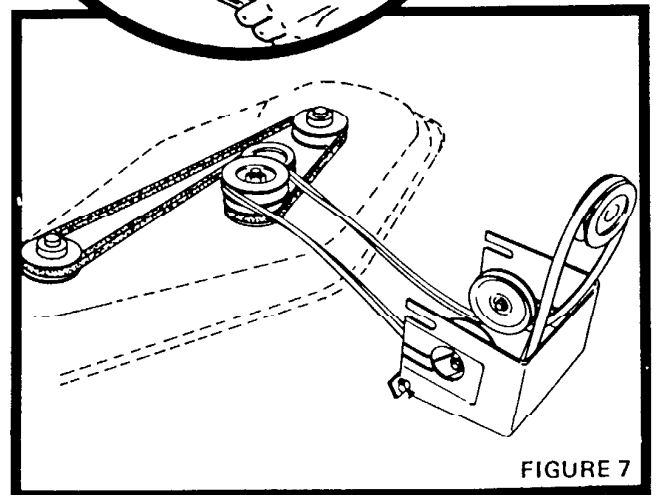
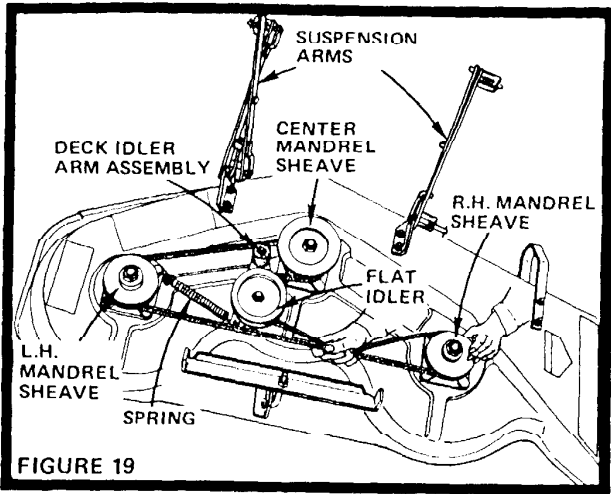

FIGURE 7
FIGURE 19
20. Check V-Belt for proper installation on all Pulley Grooves (Fig. 7).
5. Install new Belt on Center Mandrel Sheave (Fig. 19) first, then over Stationary Idler Pulley. Pull Idler Arm forward and install Belt (Fig. 18) using the adjustable wrench. Make sure Belt has proper fit in Sheaves (Fig. 7).
5. Move Suspension Linkage outward and swing to front-both R.H. and L.H. sides (Fig. 19).
6. Remove Mower Deck Cover. There are nine (9) Carriage Bolts, Lockwashers and Hex Nuts, plus Lockwasher and Hex Nut at Deck Idler Arm Assembly to Housing.
9. Check Deck Idler Arm Assembly and Flat Idler to see that they rotate freely (Fig. 19).
10. Be sure Spring is hooked in Deck Idler Arm Assembly and on bolt in Mower Housing (Fig. 19).
11. Install new Belt in groove of L.H. Mandrel Sheave, lower groove of Center Mandrel Sheave and around Flat Idler as shown in Fig. 19.
12. From a position at discharge end of Mower, pull Belt until it goes into groove of R.H. Mandrel Sheave (Fig. 19).